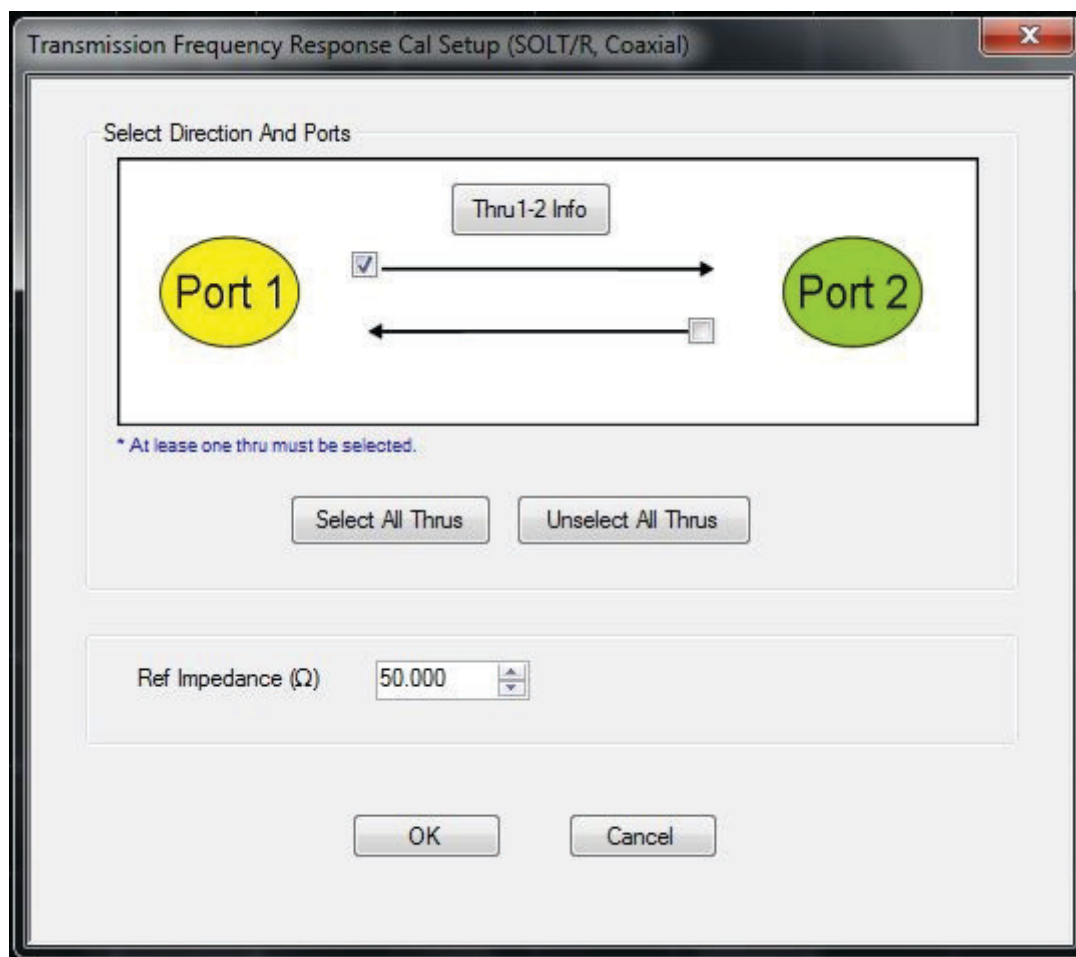

Figure 3-56. TRANSMISSION FREQUENCY RESPONSE CAL SETUP (SOLT/R, Coaxial) Dialog
6. Select Edit Cal Params (see Figure 3-56).